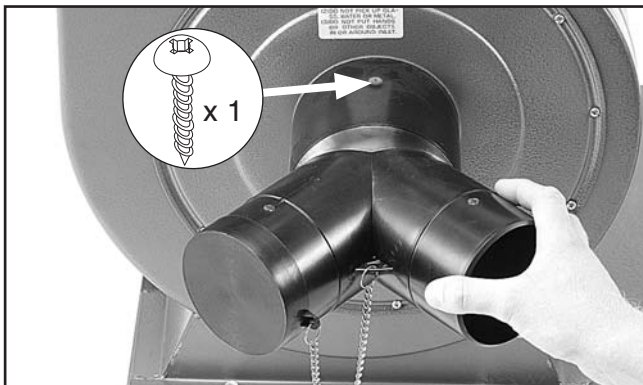

Figure 36. Installing "Y" inlet.
13. Remove the pre-installed screw from the inlet cover, and secure the adapter to the cover flange with the screw (see **Figure 36**).